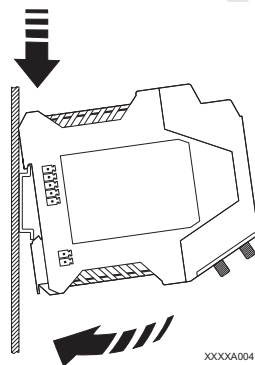

Figure 7 Assembly in the control cabinet
- Place the device onto the DIN rail from above. The upper holding keyway of the device must be hooked onto the top edge of the DIN rail (see Figure 7).